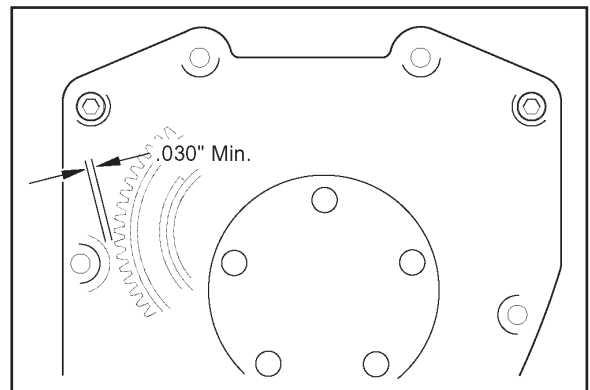

Figure 5
- P. Press a small piece of clay or kneadable putty on cam cover mounting boss shown. **See Figure 5.** Carefully hold cover and cover gasket in position against crankcase. Install mounting bolts (4) near corners of cover finger tight. Push or tap cam cover towards front of engine.